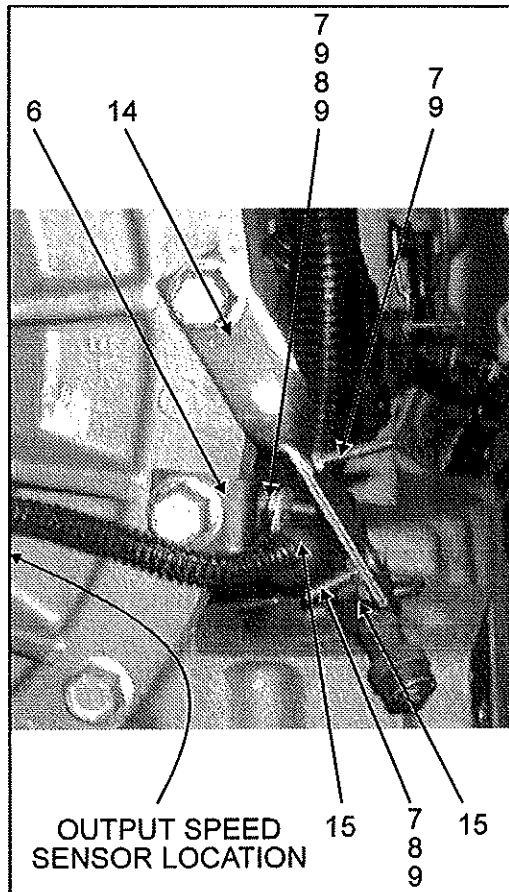

FIGURE 7
12. Install screw (7) and nut (9) on bracket (6) then fasten this bracket on transmission rear end as illustrated in **Figure 7**. Attach output speed sensor harness to bracket using retaining clip (15), lock washer (8) and nut (9).
13. Fasten bracket (14) on transmission rear end, just above the one installed in previous step 12, then install screw (7) and nut (9). The screw (7) will be used further in this bulletin to retain the transmission harnesses' shield. Secure retarder solenoid harness to bracket (14) using retaining clip (15), screw (7), lock washer (8) and nut (9).